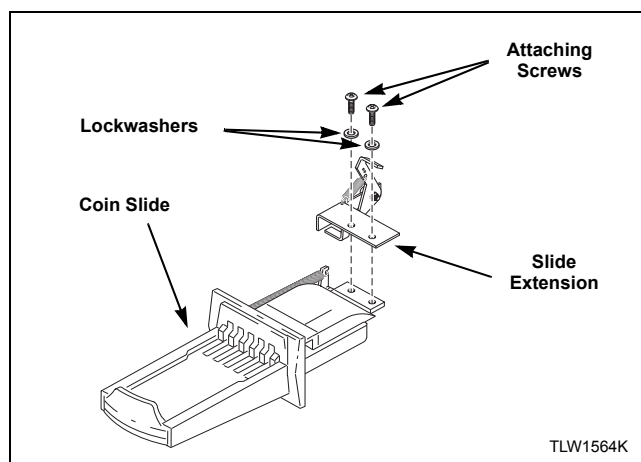

Figure 28
1. Install slide extension onto top of coin slide using two remaining screws and lockwashers. Refer to *Figure 28*.
3. Install slide extension onto top of coin slide using two screws and lockwashers. Refer to *Figure 28*.